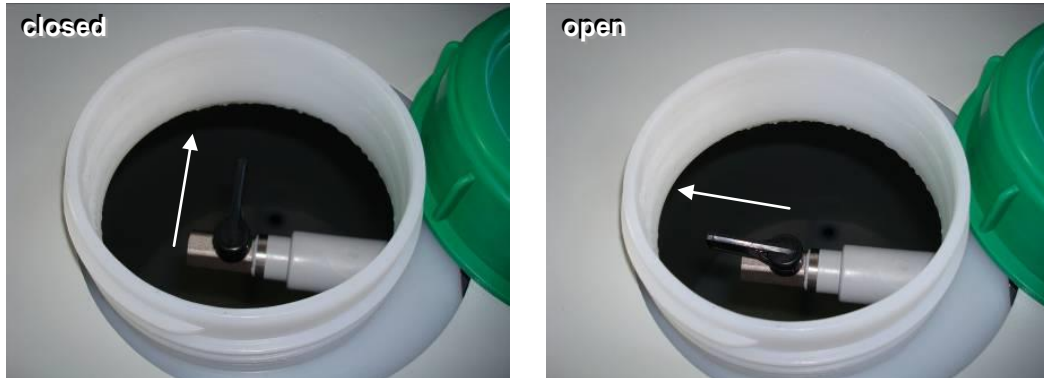

Figure 34: Opening and closing of the venting valve
- Close the venting valve (handle 90° to valve's orientation) located in the water tank, just below the lid. (see Figure 34)